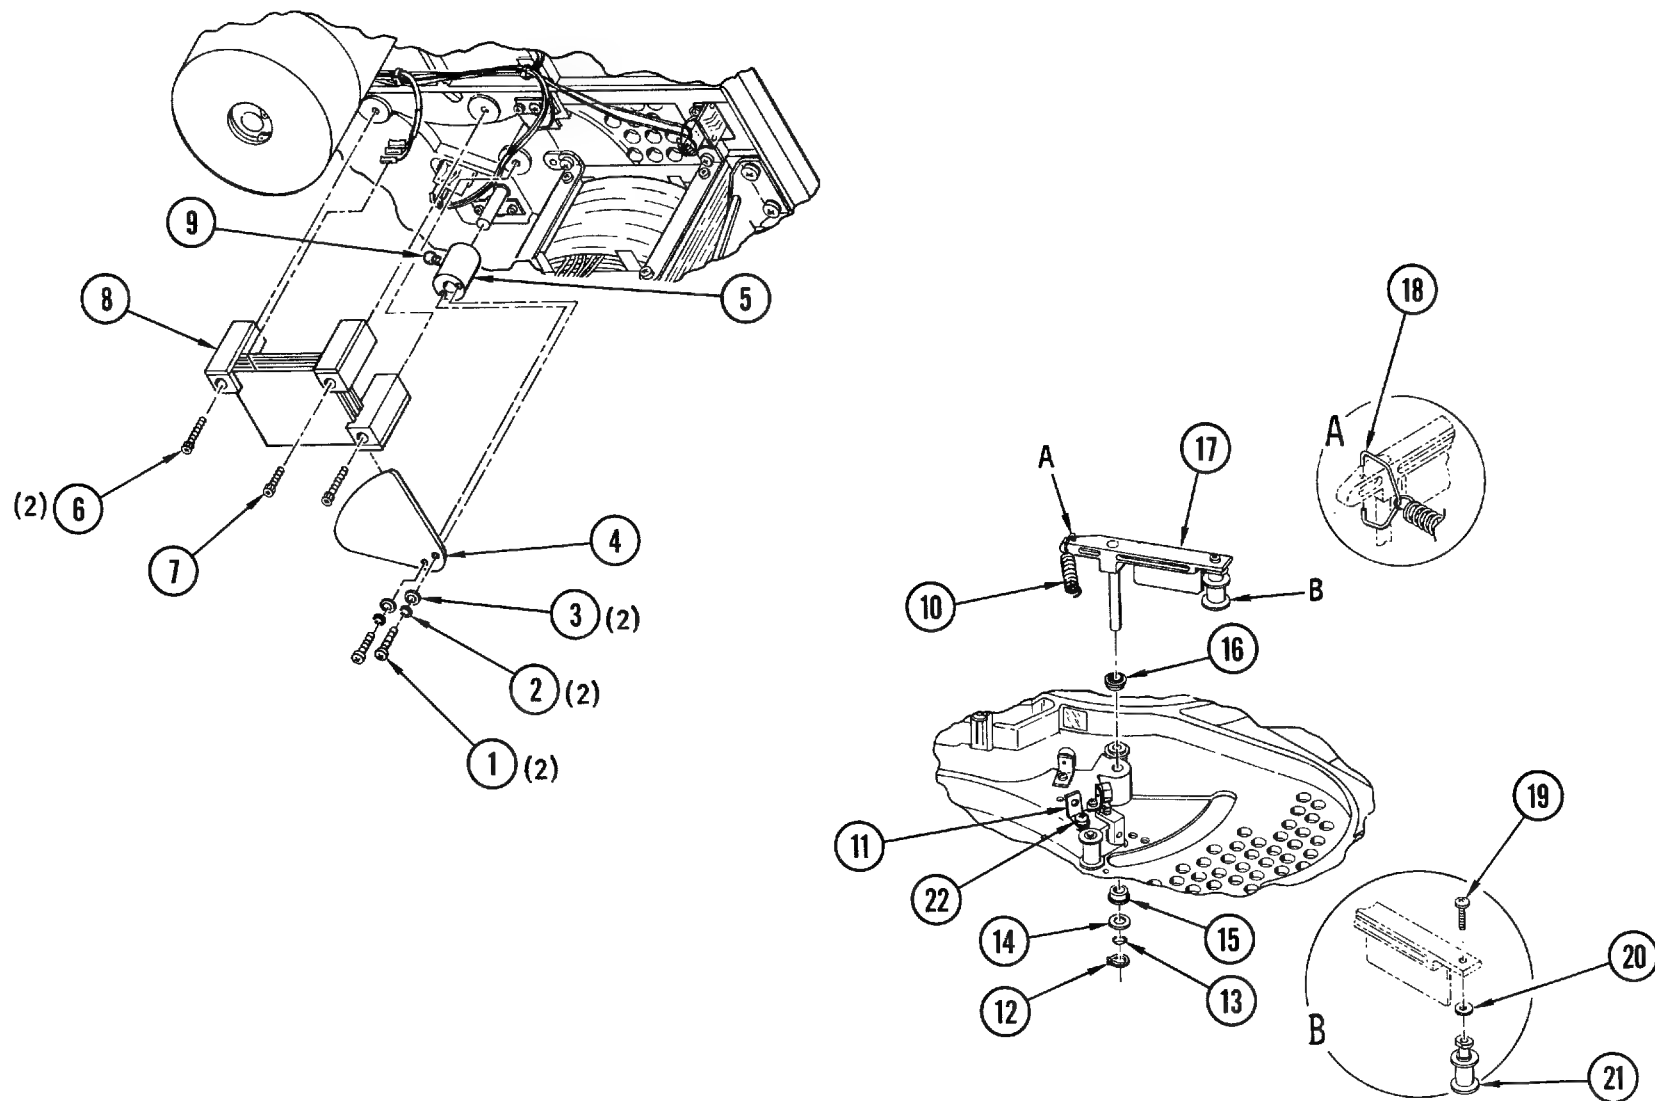

Figure 4-17. Compliance Arm and Air Capacitor Assemblies
4-30. Removal and Disassembly (Figure 4-17). Place the transport in service access position (paragraph 4-3). Proceed as follows:
- a. Replace defective parts and reassemble compliance arm assembly as shown in Figure 4-17, in reverse order of steps g through i, paragraph 4-30, observing the following special instructions.
- (1) Use attaching parts and shims saved from removal and disassembly as necessary.
- (2) Apply Lubriplate to bearing surfaces between clip (18) and arm (17).
- b. If bearing (15) or (16) was removed, apply small amount of Loctite 601 around outside of bearing and replace.
- d. Install shim (14), wavespring washer (13), and retaining ring (12) on bottom of shaft. Check wavespring washer (13) to see that it is compressed half of its height. If not, add shims (14) as necessary, checking compliance arm for freedom of movement.
- e. Slip hub (5) of capacitor shutter over end of compliance arm shaft, tightening socket head screw (9) just enough to hold hub on shaft.
- f. Mount air capacitor stator (8) to under side of top plate with one screw (1/2 - inch) (7), and two screws (5/8-inch) (6), applying Loctite 242 to screws before insertion.
- g. Slip blade (4) of capacitor shutter between two upper plates of capacitor stator (8), and attach to hub (loosen hub if required) with two screws (1), lockwashers (2), and flatwashers (3).
- i. Loosen hub socket head screw (9) slightly, rotate capacitor shutter blade (4) to within 0.1 inch of power supply housing, and adjust height of hub so that rotor blade does not bind on either plate of capacitor stator (8).